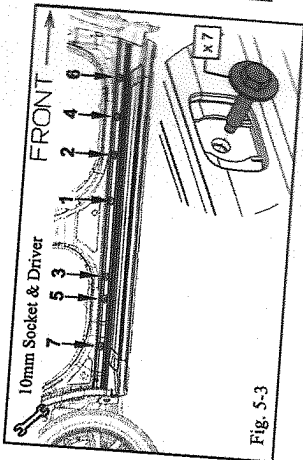

Fig. 5-3
(c) Insert and hand start one (1) M6 bolt ② at center hole #1 on the outer facing flange (Fig. 5-3).
(d) Insert and hand start six (6) M6 bolts ② at the remaining locations on the outer facing flange (Fig. 5-3).
**NOTE:** A total of seven (7) bolts are to be installed on the outer facing flange.
**NOTE:** Make sure center hole #1 is lined up with the rivet before threading. Use gentle force to thread the bolt at location #4 where the Wakai nut ③ is.
(e) Tighten and torque the bolts to 7 N·m per the sequence indicated in Fig. 5-3.